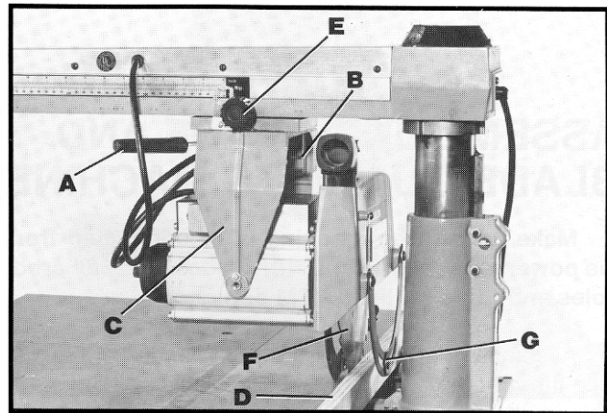

Fig. 55
2. Loosen yoke clamp lever (A) Fig. 55. Release yoke index by pressing up or down yoke index lever (B) and rotating cuttinghead (C) to the in-rip position as shown. Tighten yoke clamp lever (A).
3. Assemble fence (D) Fig. 55, between rear table board and table clamps.
4. Loosen cuttinghead clamp knob (E) Fig. 55, and slide cuttinghead (C) to rear of track arm until saw blade (F) is flush against fence (D). **NOTE:** Lift leaf (G) of guard to clear fence.
5. Tighten cuttinghead clamp knob (E) Fig. 55, and set in-rip pointer (H) to "zero" mark on in-rip scale.